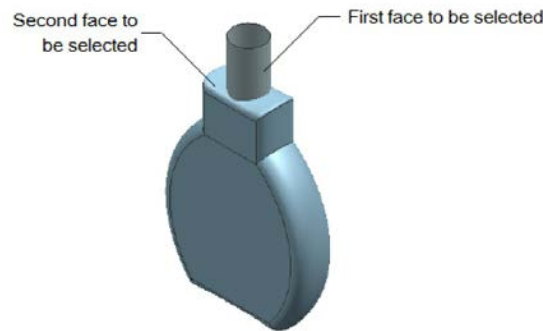

Figure 11-57 Entities to be selected
- j. Create the face blend feature using the **Face Blend** tool, refer to Figures 11-57 and 11-58.
rollout. As a result, you are prompted to select the faces to blend. Select the faces, refer to Figure 11-57; an arrow is displayed. Make sure the arrow points outward. If not, choose the **Reverse Direction** button to flip the direction.
3. Choose the second **Face** button from the **Faces** rollout and select the second face, refer to Figure 11-57. An arrow is displayed on selecting the face. If this arrow does not point upward, reverse the direction.